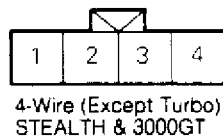

Fig. 4: O2 Sensor Connector Terminal ID (4-Wire)
1) Warm engine until coolant temperature is 185-205°F (85-95°C). Disconnect O2 sensor connector. See Fig. 4. Check resistance of O2 sensor heater element. Connect ohmmeter between specified heater terminals of O2 sensor connector. See